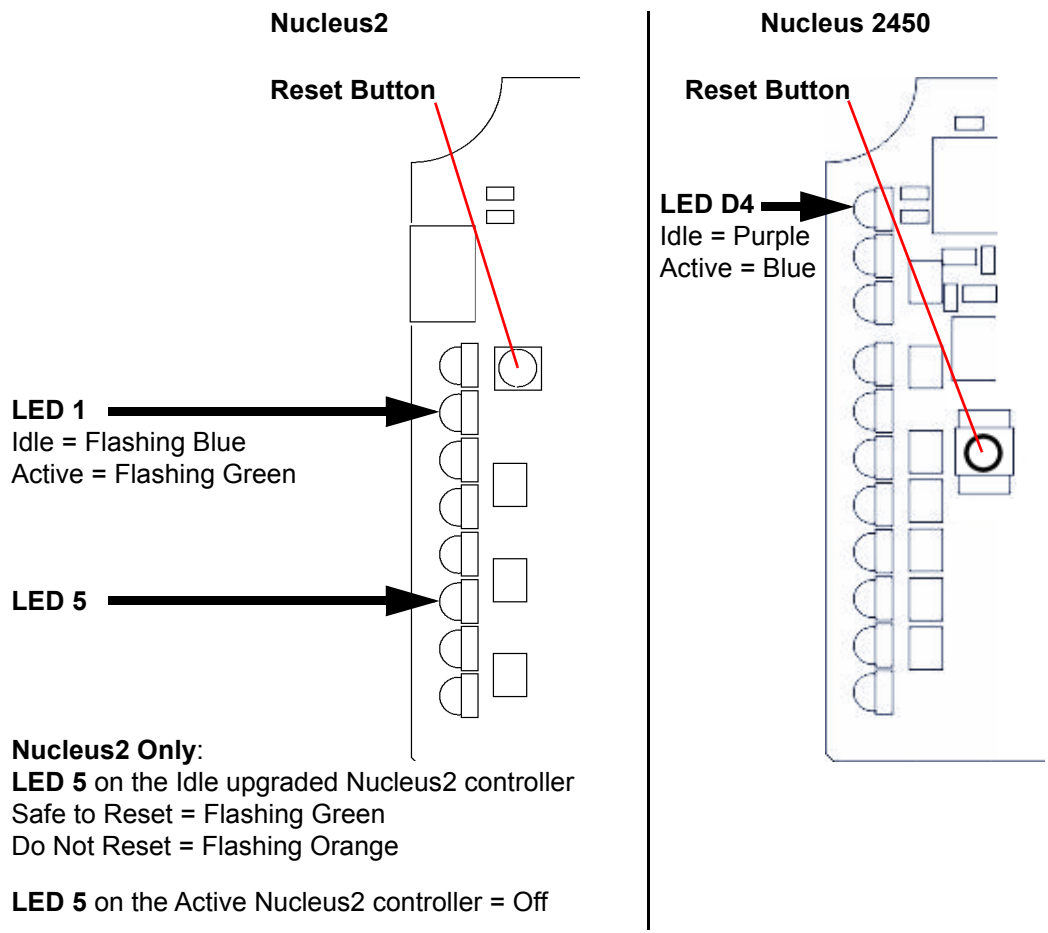

Figure 80 Router Controller Reset Button Location (Front Edge of Modules Shown)
- 10. Use the controller **Reset** button to reset the other (active controller) making this upgraded controller active, see Figure 80 on page 117 for the location of the **Reset** button.